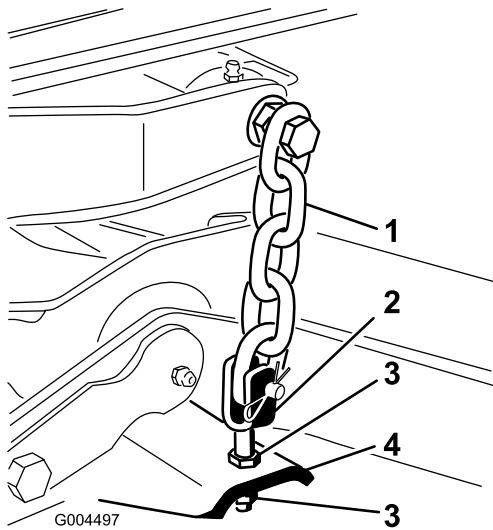

Figure 5
- Adjust the jam nuts securing the mower yokes/chains to the mower until the mower is level (Figure 5).
7. Adjust the jam nuts securing the rear mower yokes/chains (Figure 5) to raise the rear of the mower so that the blade pitch is set to 8 to 11 mm (5/16 to 7/16 inch).